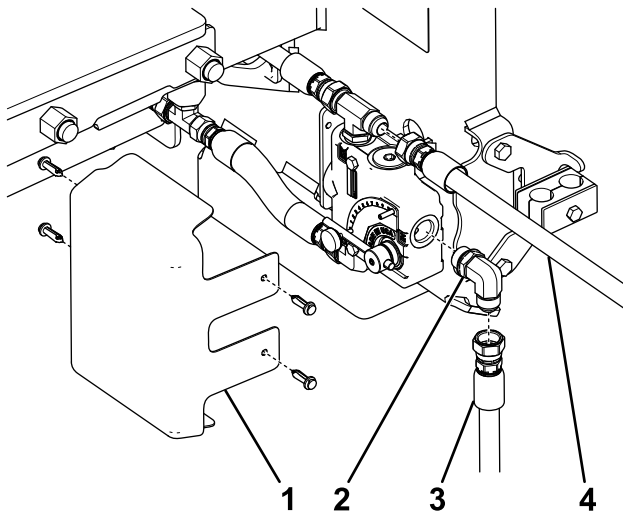

Figure 7
1. Remove and retain the flow control cover (Figure 7).
2. Secure the 90° hose fitting to the flow control valve (Figure 7) and torque it to 81 N·m (60 ft-lb).
3. Secure the short hose to the 90° hose fitting (Figure 7).
4. Secure the long hose to the remaining fitting on the flow control valve (Figure 7).